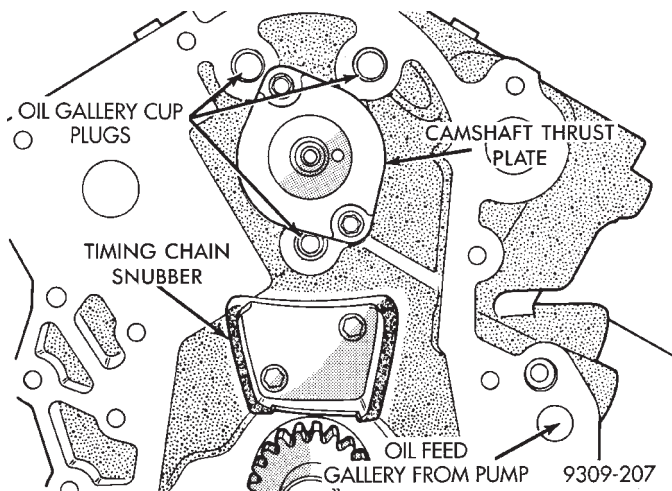

Fig. 10 Camshaft Thrust Plate
- (1) Remove rocker arm and shaft assemblies.
(2) Remove push rods and tappets; identify so each part will be replaced in its original location.
(3) Remove camshaft thrust plate (Fig. 10).
(4) Install a long bolt into front of camshaft to facilitate removal of the camshaft; remove camshaft, being careful not to damage cam bearing with the cam lobes.
(2) Install camshaft thrust plate with two screws as shown in (Fig. 10). Tighten to 12 N•m (105 in. lbs.) torque.
(3) Rotate crankshaft so the timing arrow is to the 12 O'clock position.
(4) Place timing chain around camshaft sprocket and place the timing mark to the 6 O'clock position.
(5) Align the dark colored links with the dot on the camshaft sprocket, place timing chain around